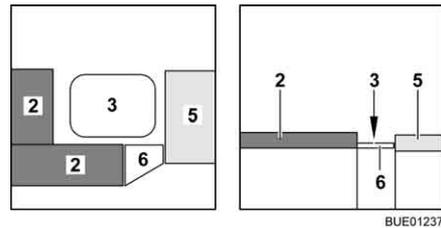

Fig. 95 During conversion
- Hook the bed widening section (Fig. 95,6) into the bench seats.